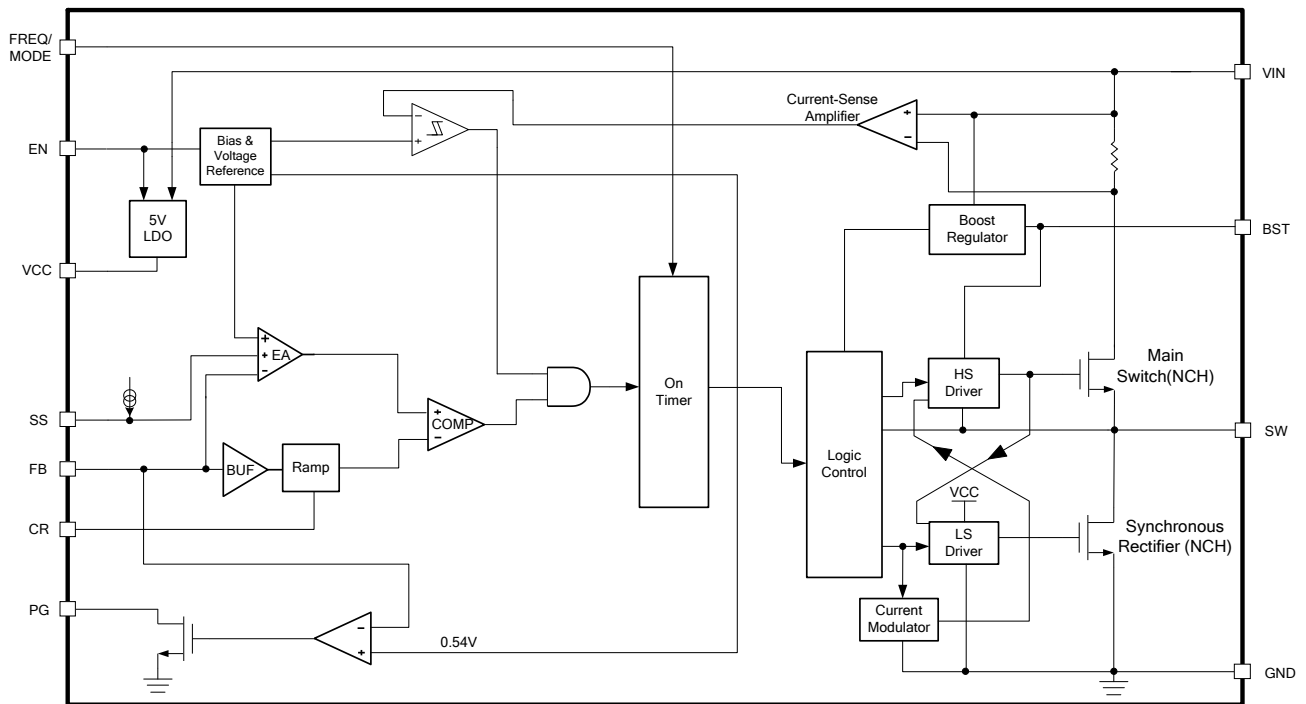

Figure 1: Functional Block Diagram
MP2326 has cycle-by-cycle over-current limit control. During the HS-FET on state, the inductor current is monitored. When the sensed inductor current hits the peak current limit, the HS limit comparator (see Fig. 1) is triggered, the device enters over-current protection mode immediately, and then turns off the HS-FET and turns on the LS-FET. Meanwhile, the output voltage drops until VFB is below the under-voltage (UV) threshold (50% below the reference, typically). Once UV is triggered, the MP2326 enters hiccup mode to re-start the part periodically.